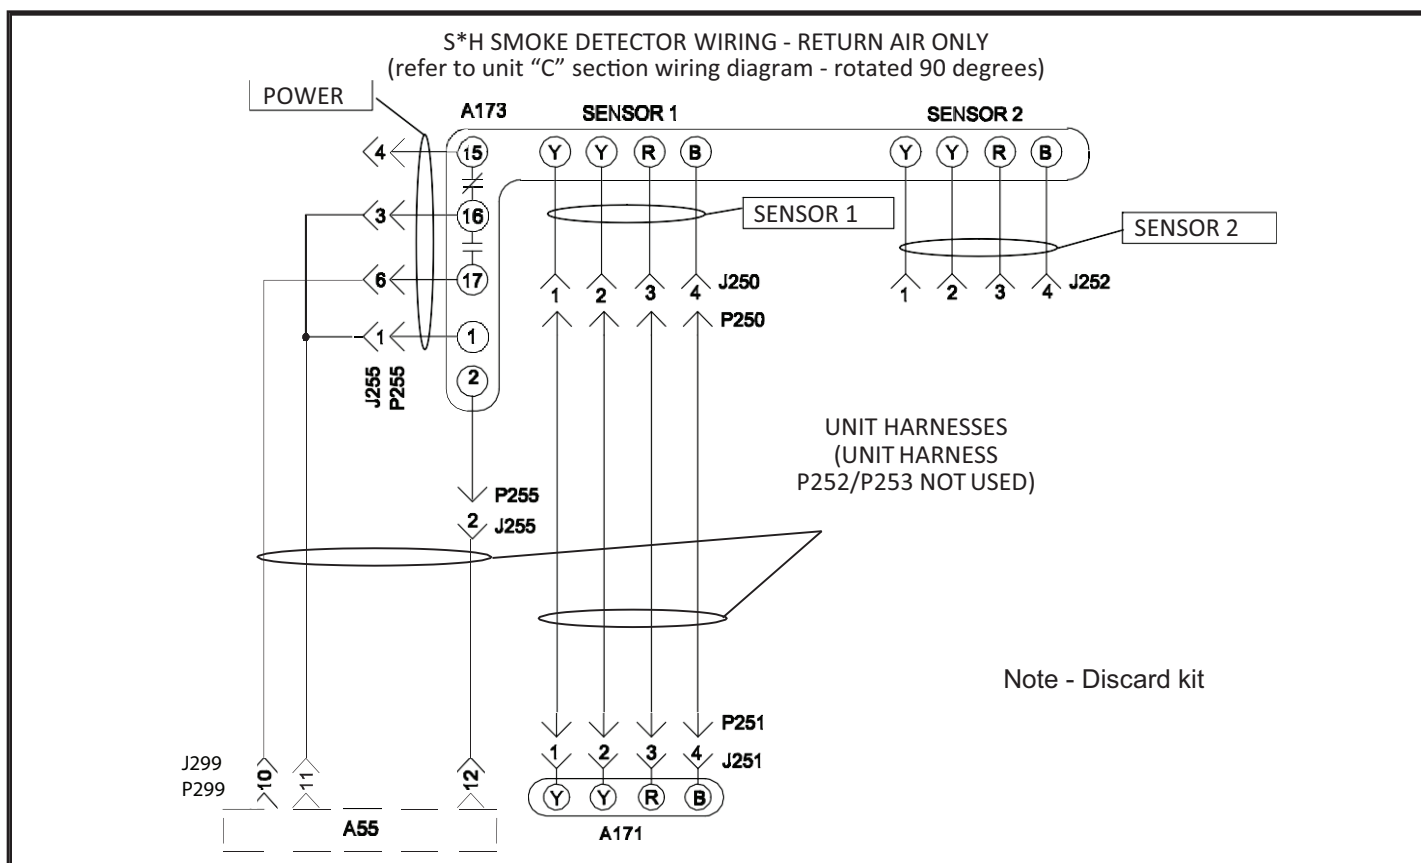

FIGURE 7
- 1 - Make jack/plug connections as shown in FIGURE 7 when installing return air smoke detector only, FIGURE 8 when installing supply air smoke detector only, and FIGURE 9 when installing both supply and return air smoke detectors.